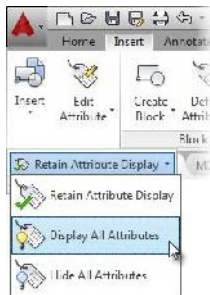

FIGURE 9.34: Selecting the Display All Attributes option
2. On the Insert tab ➤ Expanded Block panel, click the down arrow next to the Retain Attribute Display button, and click Display All Attributes, as shown in Figure 9.34.